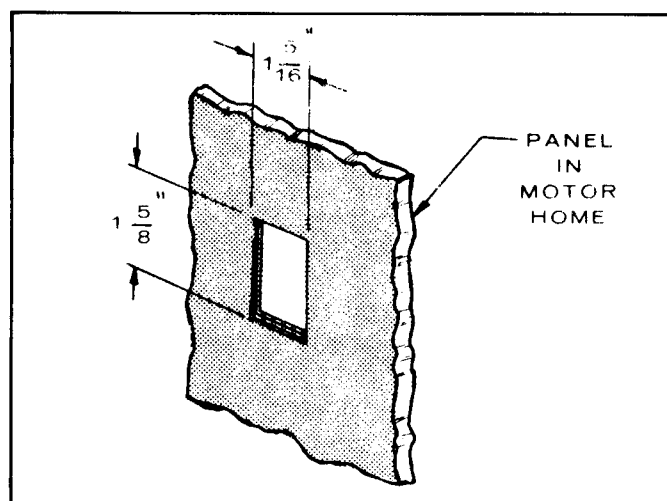

FIGURE 75. PANEL CUTOUT (300-0985)
1. Determine location of remote control and cut a hole in motor home panel to accommodate switch (Figure 75).